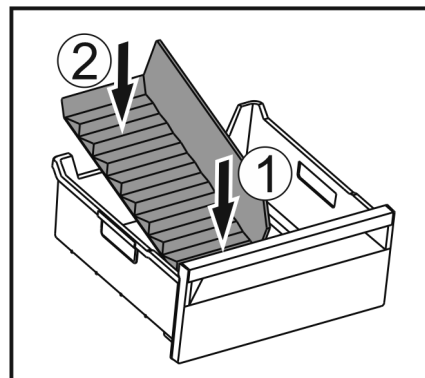

Fig. 141
- ▶ Insert the front part of the ice compartment divider. Fig. 141 (1)
- ▶ Lower the rear part of the ice compartment divider to the drawer bottom. Fig. 141 (2)